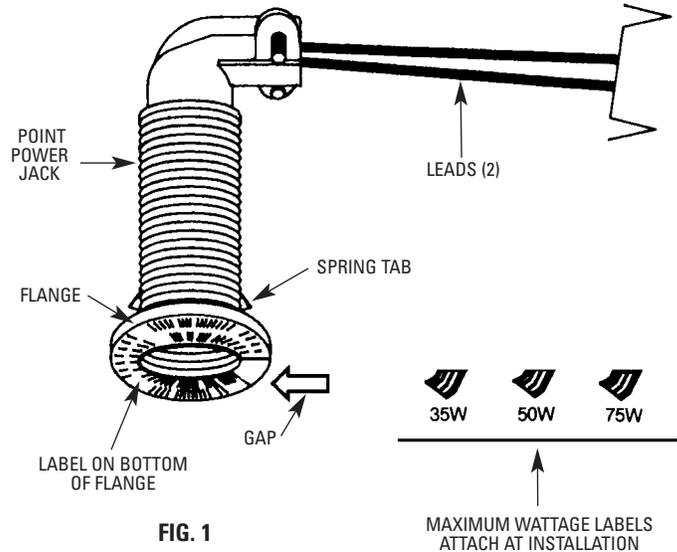

FIG. 1
1. Peel the appropriate MAXIMUM WATTAGE LABEL from its backing and adhere it to the gap in the LABEL on the FLANGE of the POINT POWER JACK (Fig. 1).